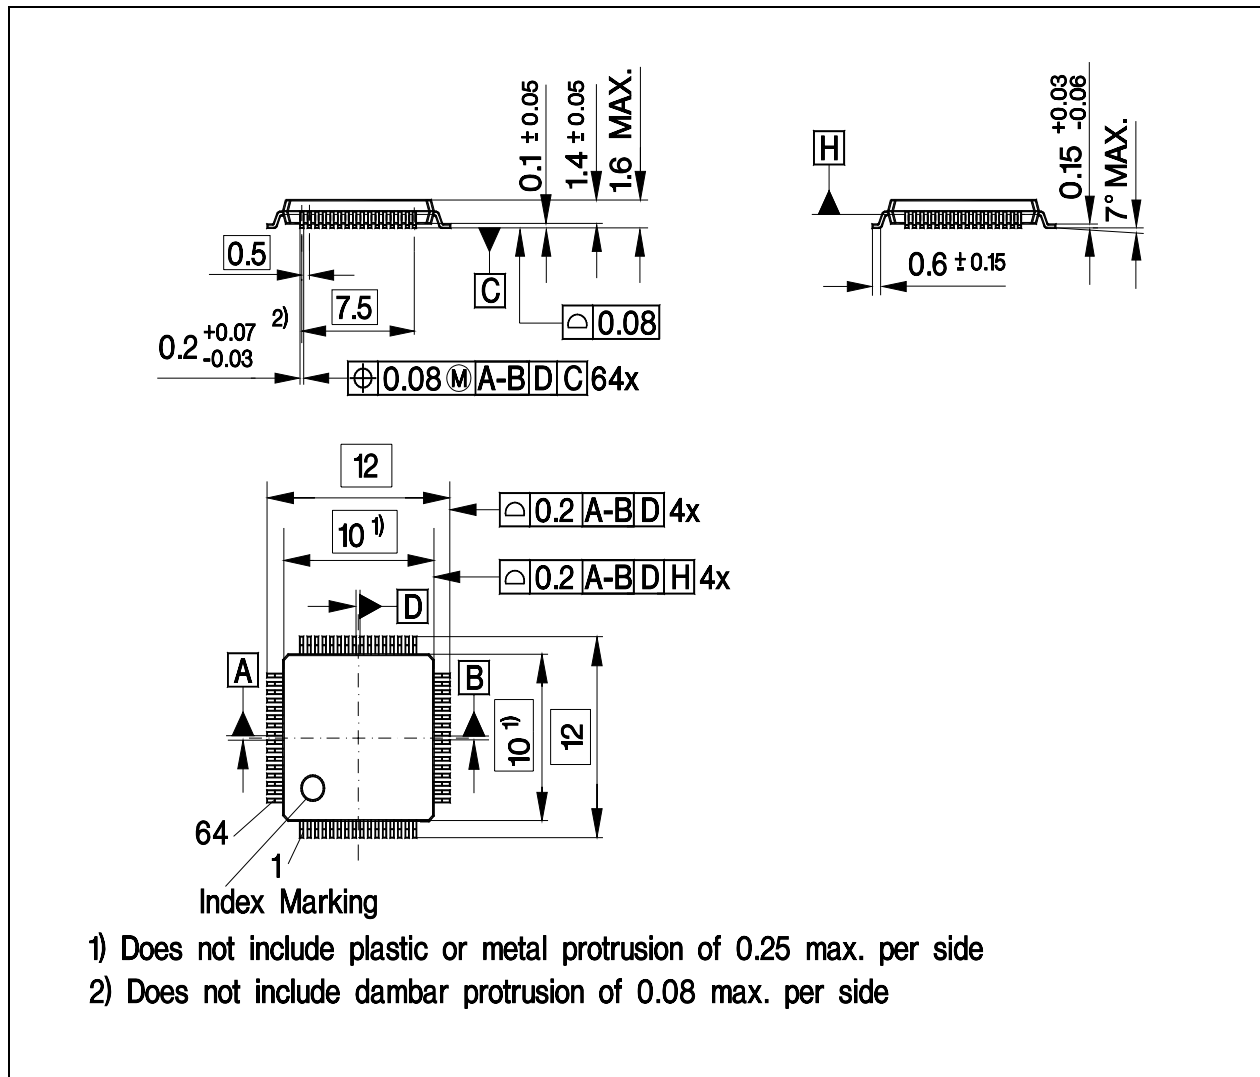

**Figure 47**      **PG-LQFP-64-4 Package Outline**
**Figure 47** shows the package outlines of the XC878.